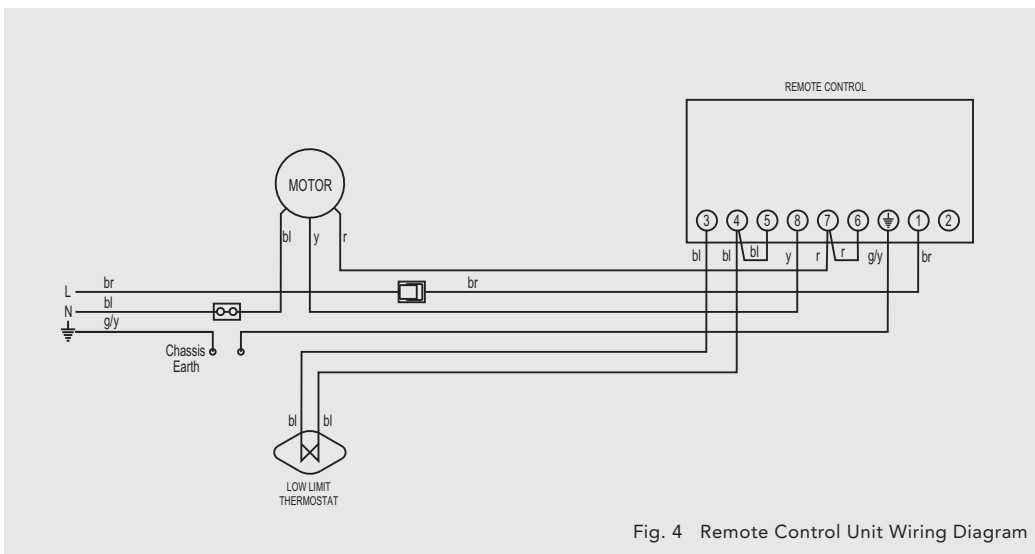

Fig. 4 Remote Control Unit Wiring Diagram
4. Feed the electrical cables through one of the 2 rectangular holes in the back of the thermostat and using the end without crimp terminals, connect the 5 metre cord to the remote switch as per the wiring diagram below. Use the linkwires supplied with this kit to connect terminals 4 & 5 and 6 & 7 as per the wiring diagram, see fig 4.